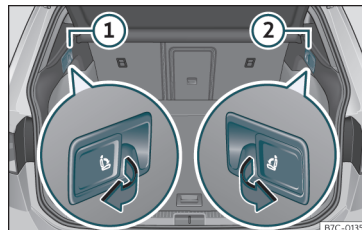

Fig. 129 In the trunk: levers for remote release of the left part ① and right part ② of the rear seat backrest.
- Pull the remote release lever of the left part >>> Fig. 129 ① or right part ② of the backrest in the direction of the arrow. The released part of the rear seat backrest is folded automatically down and forwards.